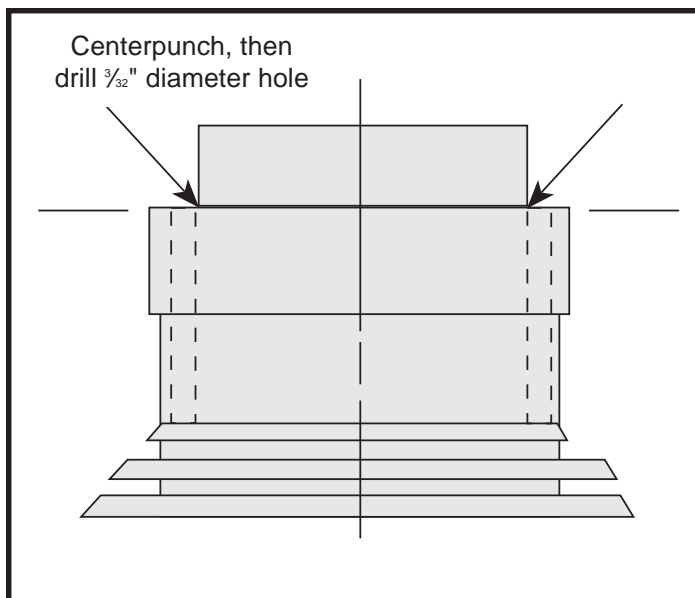

Figure 2
- E. Centerpunch corners where lines A intersect spigot. **See Figure 2.**